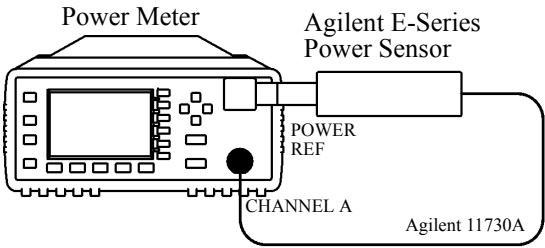

Figure 2-5: Sensor Functional Test Setup
- 1. Connect the equipment as shown in Figure 2-5.
12. Disconnect the 30 dB attenuator and reconnect as shown in Figure 2-5.